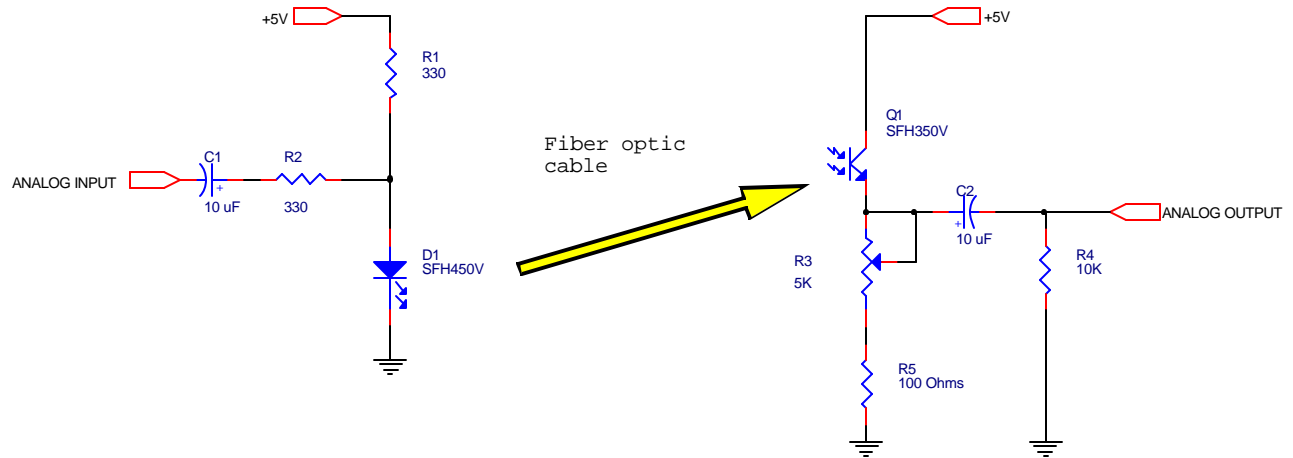

Figure 1: Analog Fiber Optic System
Figure 1 shows the analog fiber optic system. It's amazingly simple! R1 biases D1 (the SFH-450V LED) to mid-point bias at around 10 mA. C1 allows the AC input signal to enter from the generator, but blocks the DC which would interfere with the Q-point of D1. R2 sets the AC gain and input impedance of the circuit. Since the forward-biased diode has a small AC resistance (recall that $r'_d = 25 \text{ mV} / I_D = 25 \text{ mV} / 10 \text{ mA} = 2.5 \text{ Ohms}$), a resistor is needed in order to limit the AC input current. As a bonus, R2 introduces *negative feedback* which *linearizes* the circuit, reducing distortion.
1. Build the analog circuit of Figure 1. Make sure to properly dress the fiber optic cable ends as shown in Figure 4. Failure to do this may make your circuits work marginally, or not at all!
2. What type of modulation does the circuit of Figure 1 employ?